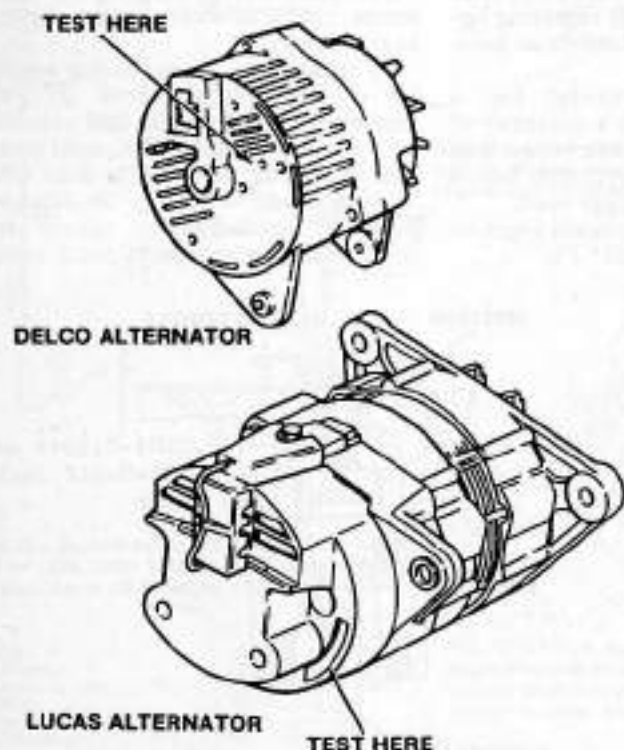

Fig. 97—View showing hole location for by-passing voltage regulator. Refer to paragraph 184.
**184. VOLTAGE REGULATOR BY-PASS TEST.** With voltmeter connected as outlined in paragraph 183, start and run engine at 1500 rpm. Ground voltage regulator to alternator case using probe with ground wire (Lucas) or small screwdriver (Delco) inserted through test hole in back of alternator case. See Fig. 97. If voltage before by-passing regulator was not between 13 and 15 volts, but is between 13 and 15 volts while regulator is being by-passed, renew voltage regulator. If voltage fails to be between 13 and 15 volts while by-passing regulator, remove alternator and overhaul as outlined in paragraphs for appropriate model.